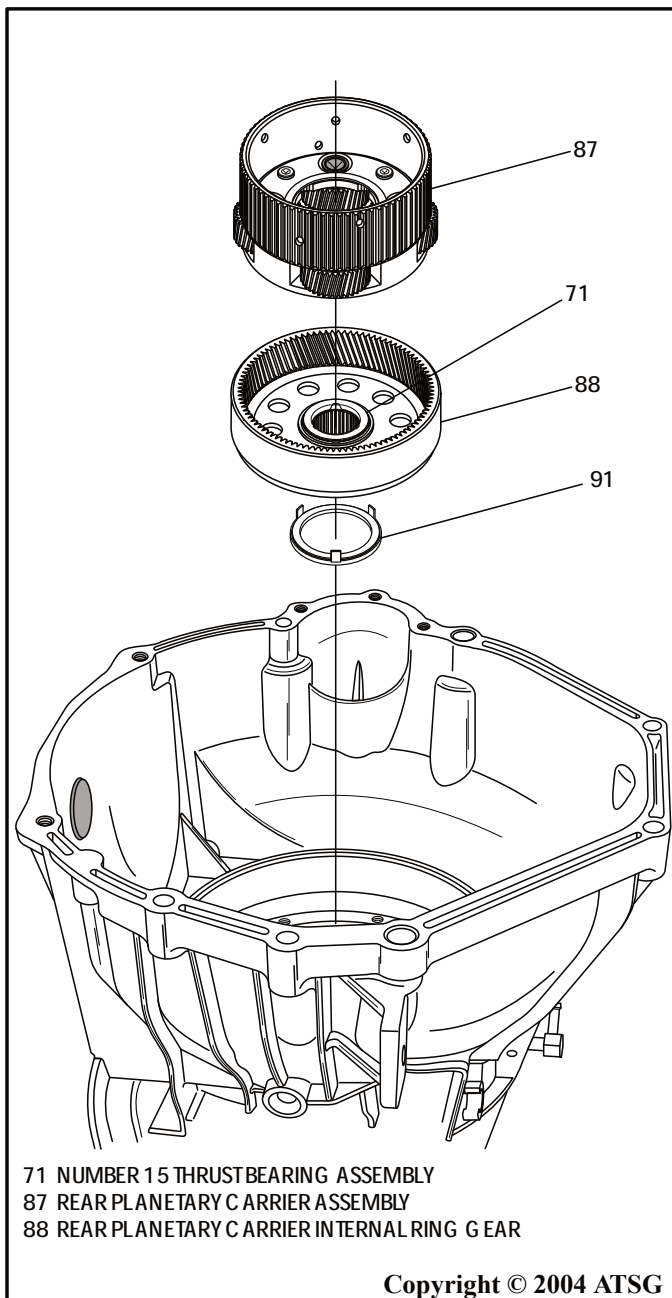

Figure 166
8. Install the pre-assembled rear ring gear and thrust bearings, as shown in Figure 166.
9. Install the 2005 style rear planetary carrier, as shown in Figure 166, by rotating into position.